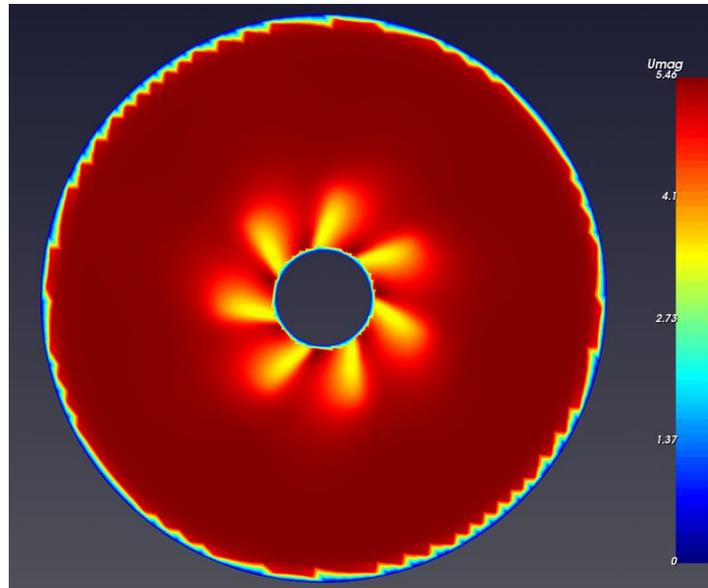

Figure 94. Velocity contour in XY plane.
Create a default plane (XY) in **Post entities** panel and visualize Velocity magnitude ($|U|$) (Figure 94).